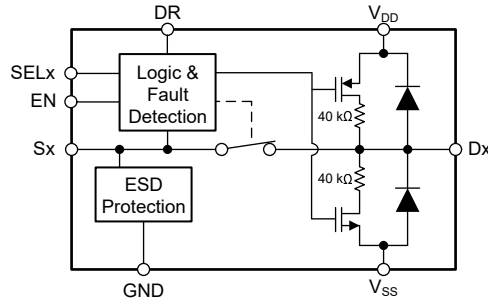

图 8-1. Detailed Functional Diagram
**Figure 8-1** shows a detailed view of the how the DR pin, SELx pin, and EN pin controls the output state of the drain pin under a fault scenario.